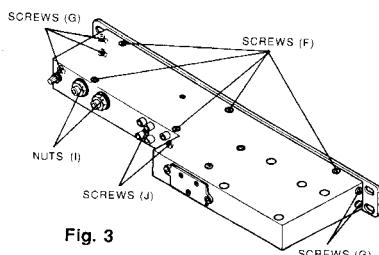

Fig. 3
Remove 5 screws (F). (Fig. 3)
Remove 5 screws (G). (Fig. 3)
Remove 2 nuts (I). (Fig. 3)
Remove 2 screws (J). (Fig. 3)